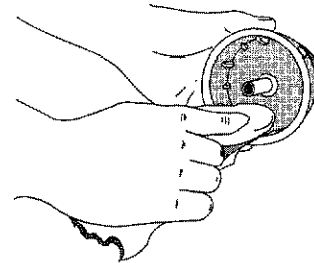

Fig. 32
4. Use a clean cloth to clean the the inner reel, spring, shaft, and inner surface of the outer spool (Fig. 32).